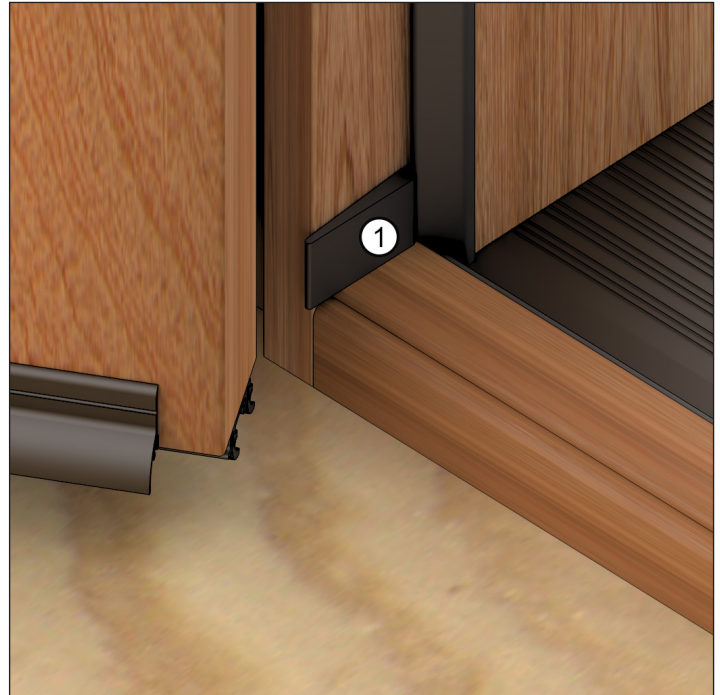

Figure 28
5. Peel the adhesive back from the corner seal wedge and place on the bottom of each operating jamb. See figure 28.